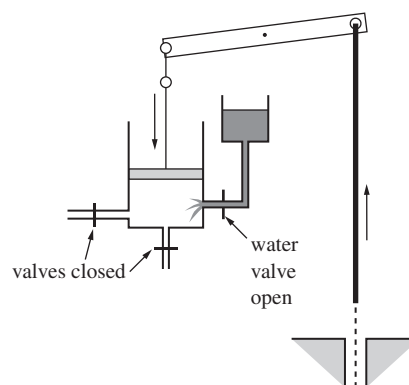

Figure 13
- the steam valve was closed and the water valve opened, allowing a jet of cold water into the cylinder to condense the steam. This created a partial vacuum. Atmospheric pressure forced the piston down, lifting the pump rod and raising water from the mine (see **Figure 13**)